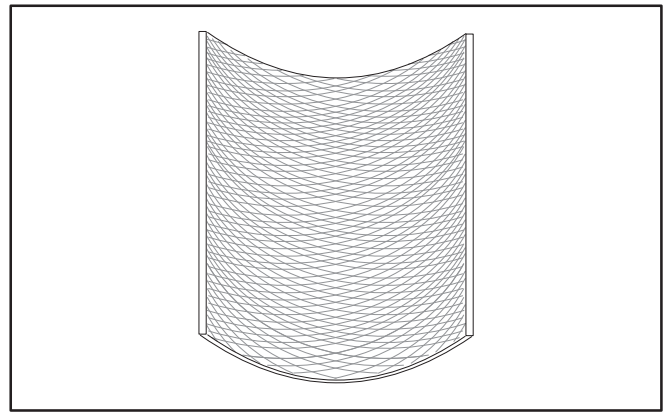

FIGURE 12-32. PROPER HONE CROSSHATCH IN BORE
Rebore and/or hone a scuffed, out-of-round, tapered or otherwise worn cylinder to the next over-size bore (Section 2). Honing should produce a 20 to 40 RMS surface finish with a 23 degree cross-hatch pattern (Figure 12-32) for rapid piston ring break-in.
3. Use a slow speed drill to drive the deglazing tool. Move the deglazing tool up and down in the cylinder bore 10 to 12 complete strokes rapidly enough to obtain a crosshatch pattern (Figure 12-32).